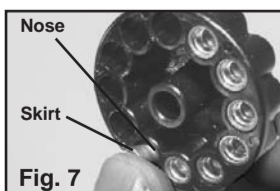

Fig. 7
- Place a .177 caliber pellet nose first in each pellet chamber of the pellet clip- making sure the indexing teeth are away from you (Fig. 7). To avoid jams or deforming pellets, make sure each pellet skirt is level or slightly below the rim of the pellet chamber.